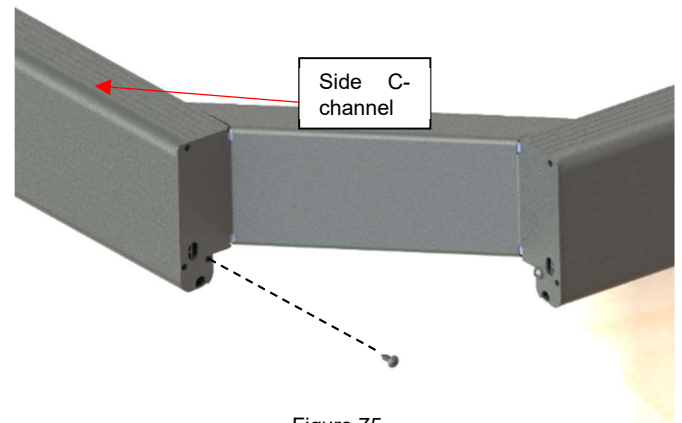

Figure 75
30) Snap on the remaining side C-channels, 83" (210 cm) at one end of the cover. It is recommended to slightly engage the top flange before the bottom when sliding the C-channel onto the foam panel (Figure 75).
31) Screw in the Robertson sheet metal #8 x 1/2" screw in the inner hole of the corner bracket reinstall the (Figure 75).